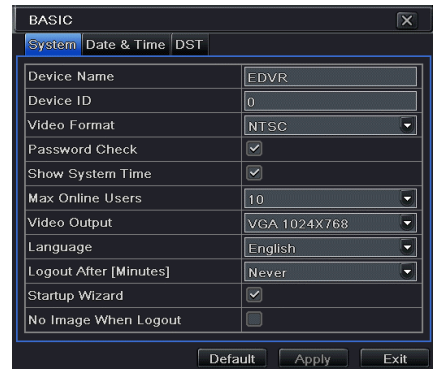

Fig 4-3 Basic Configuration-Basic
Step1: Enter into Menu→Setup→Basic→System. Refer to Fig 4-3: